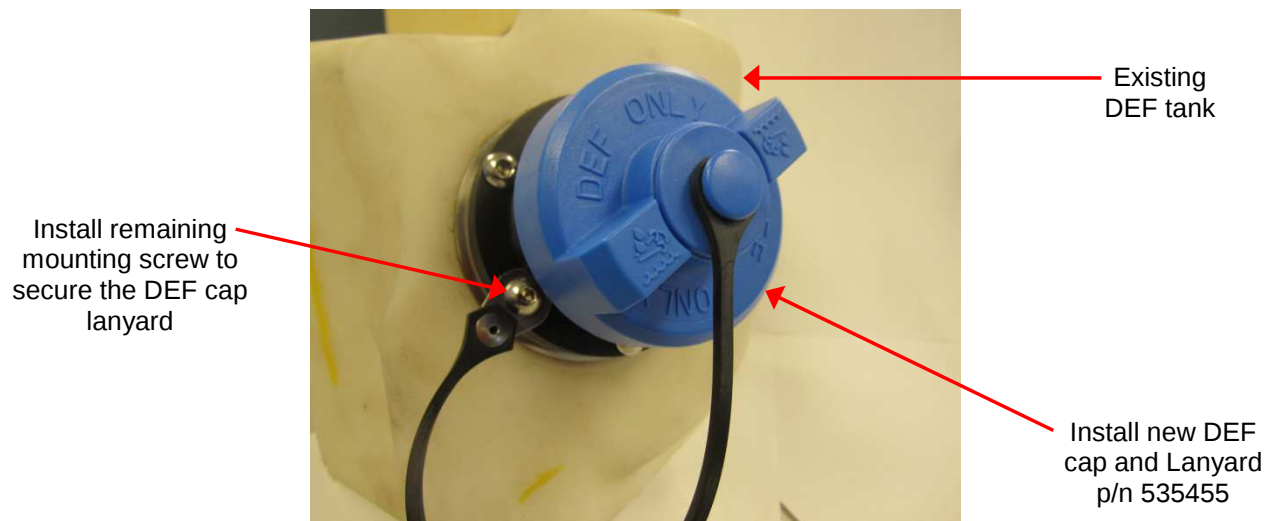

Figure 5: DEF Cap and Lanyard Installation
9. Attach the lanyard to the filler neck using the remaining screw from Step 7, torque the screw to 40 in*lbs. Install the DEF cap p/n 535455, See Figure 5.